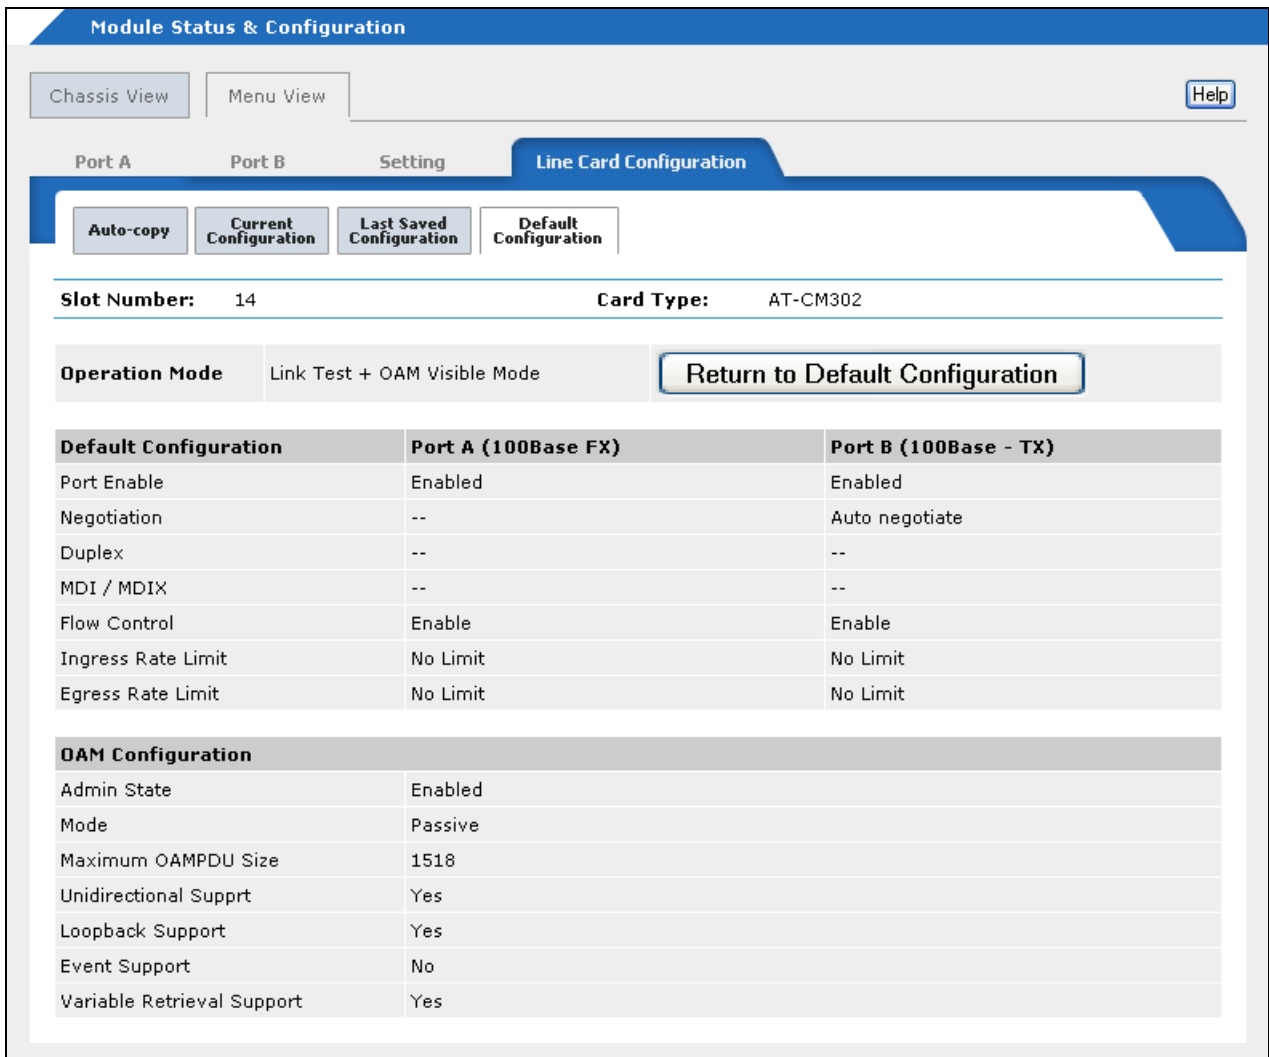

Figure 81. Default Configuration Tab
4. Select the **Default Configuration** tab, shown in Figure 81.